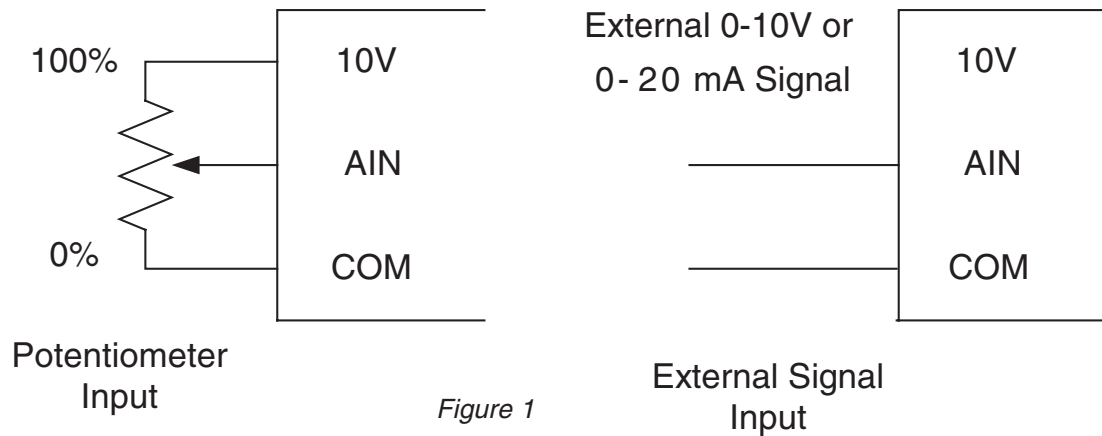

Figure 1
- g) **Set Frequency Reference Source:** Set Frequency Reference Source: Change parameter 1-06 to change the frequency reference source as shown below. After setting parameter 1-06, remove AC input power, wait for the "Charged" LED to extinguish, and connect any devices to the drive as shown in Fig. 1. Reference to page 53 of the instruction manual.